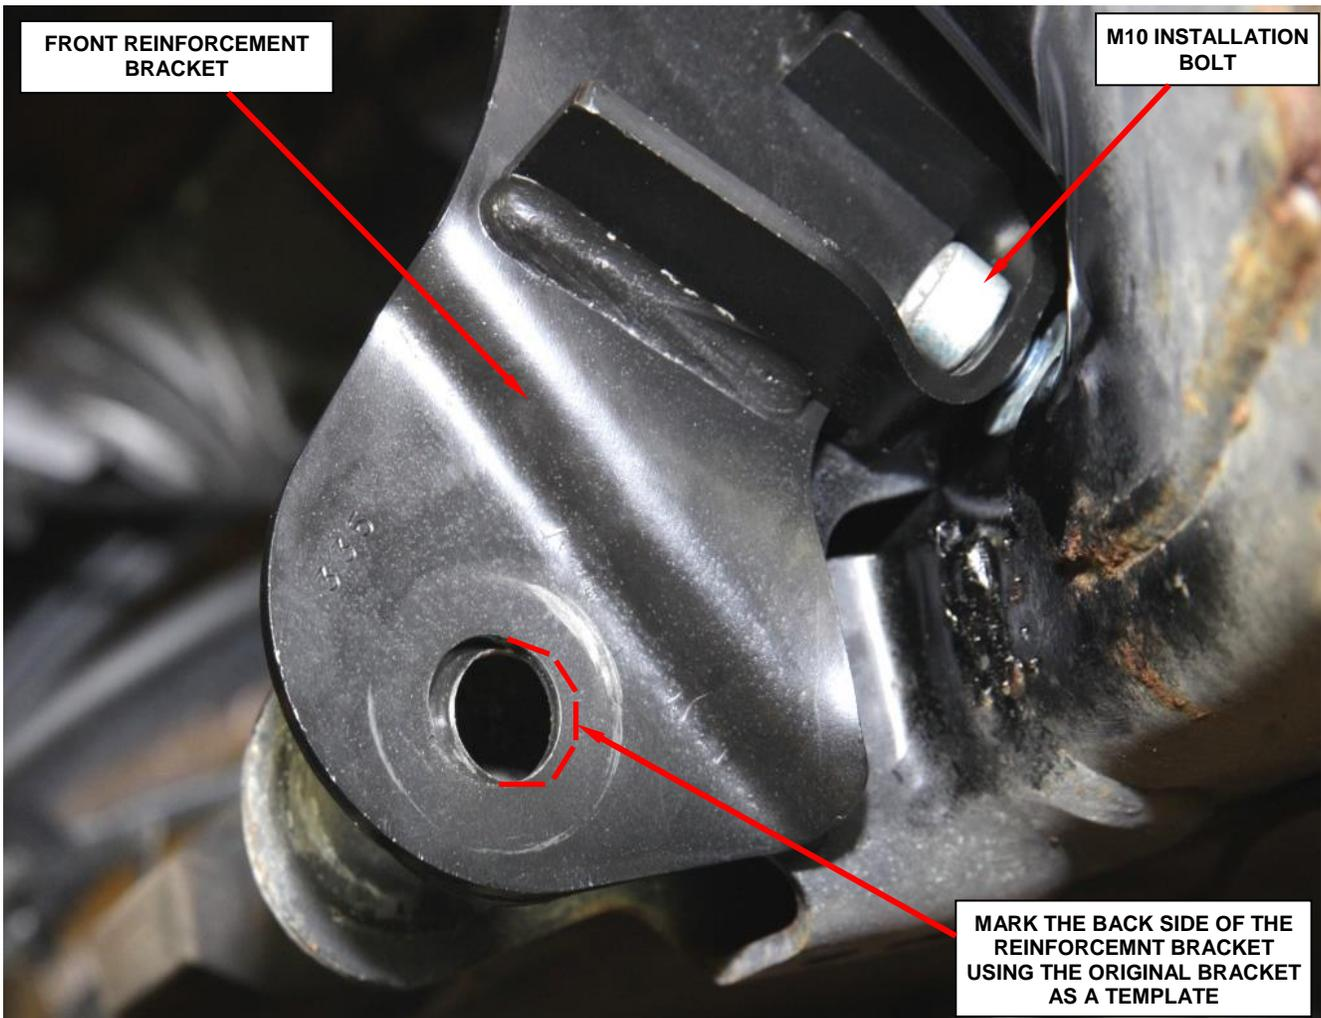

Figure 63 – Mark Backside of Reinforcement Bracket
3. Mark the M18 hole on the reinforcement bracket for the track bar bolt (Figure 63).